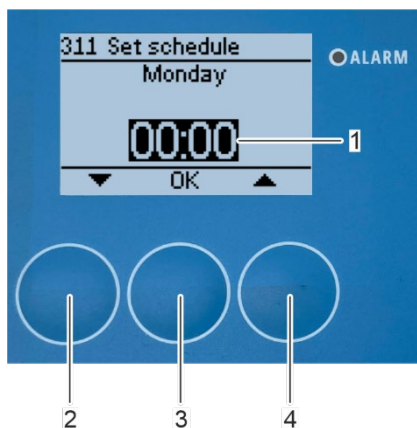

Fig. 156: Select start time for automatic cleaning
⇒ The selection of the start time appears on the display (Fig. 156/1).
6. Select the start time for automatic cleaning with the arrow keys *[up]* (Fig. 156/4) and *[down]* (Fig. 156/2).
7. Confirm the selection with *[OK]* (Fig. 156/3).